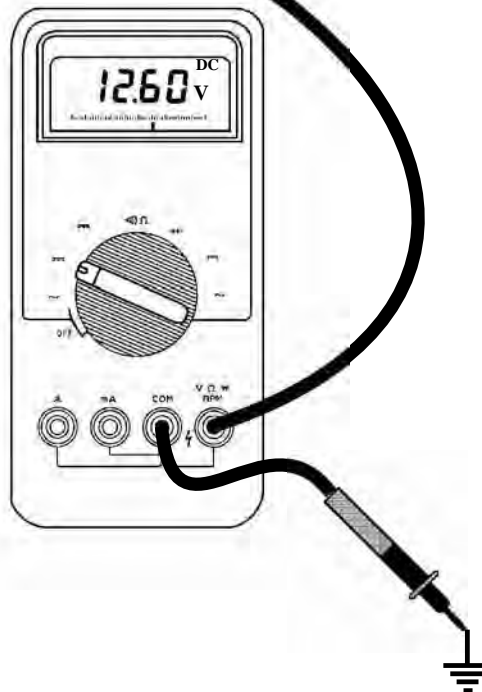

Figure 5
- (1) If the vehicle is stuck in third gear, with no upshifts to fourth gear, turn the engine off and place the ignition switch to the ON position, unplug the transmission harness connector and perform the following tests.
- (a) Check pin cavity number 1 in the vehicle harness connector for battery voltage, as shown in Figure 5. If 0 volts is seen, the computer is either defective, or the computer has lost its power source, or the wire from the computer down to pin number 1 is broken. First locate the computer which is under the dash on the drivers side, and unplug the connector as seen in Figure 6, and continue to the next step. **Note: For 1996 and later models, see Page 120.**